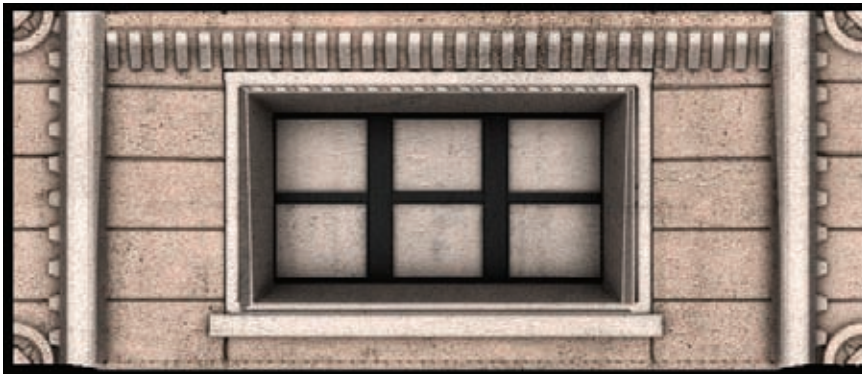

Figure 5.60
3. Press Ctrl+U to open the Hue/Saturation adjustment command and lower the Lightness value down to something like -70, making the window frame a dark metal like in Figure 5.60.